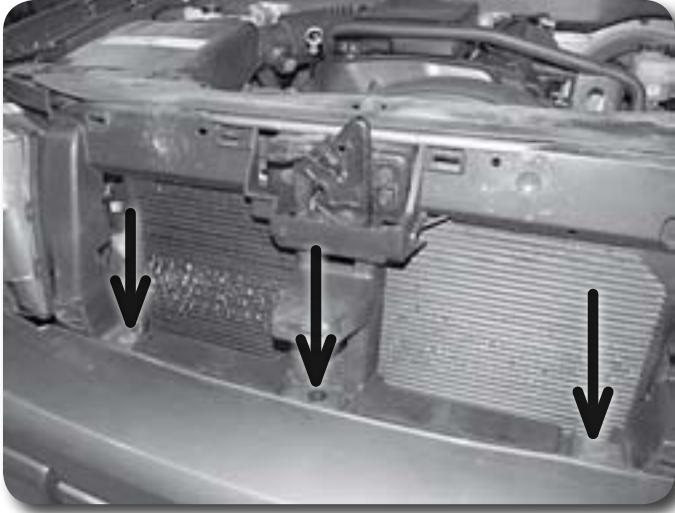

Figure 1
4. Remove the two bolts and one plastic clip from the top/center section of the front bumper cover **Figure 1**. Save bolts and clip.